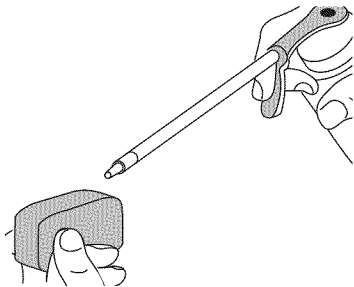

Fig. 23
4. Apply enough clean SAE 30 motor oil to lightly coat the filter (Fig. 23).